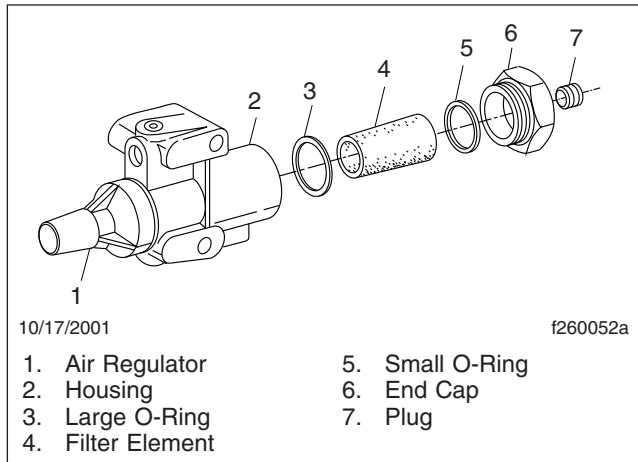

Fig. 9, Eaton Fuller Transmission Air Filter/Regulator Components
- Remove the end cap, large O-ring, and filter element from the filter housing. See Fig. 9. Remove the small O-ring from the end cap.